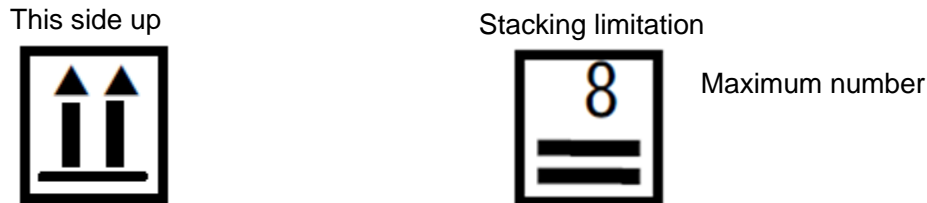

Figure 2.1.1 Signs of orientation and stacking limitation
- (1) Due to the weight of the devices, care should be taken when handling them.
- (2) The orientation and maximum number of stacked items should be in accordance with the markings on the packing boxes. (Fig.2.1.1)
- (3) Do not subject the product to impact or drop during transportation, as this may damage the packing box and/or damage the devices.
- (4) Since water may cause malfunction while using the device, be careful not to get them wet especially when transporting in rain or snow.